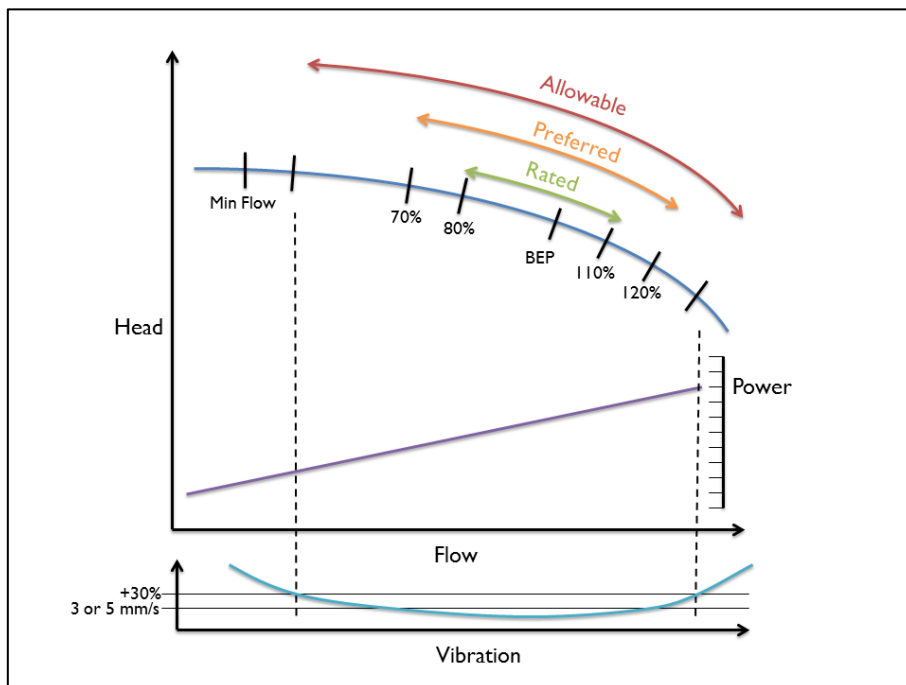

Figure 2
- **The Allowable operating region** (see Figure 2): This is the region set by the manufacturer as the allowable region that the pump is able to operate in whilst conforming to predefined API 610 vibration limits.
When a pump's vibration curve) is projected onto the head/flow curve using these vibration limits it shows an operating region that keeps the pump within these vibration limits - the Allowable operating region (see Figure 2). It can be the same, larger, or in some cases smaller than the API 610 Rated or Preferred operating region. In fact for some pumps, the theoretical allowable operating region based on vibration alone can extend below the minimum flow.